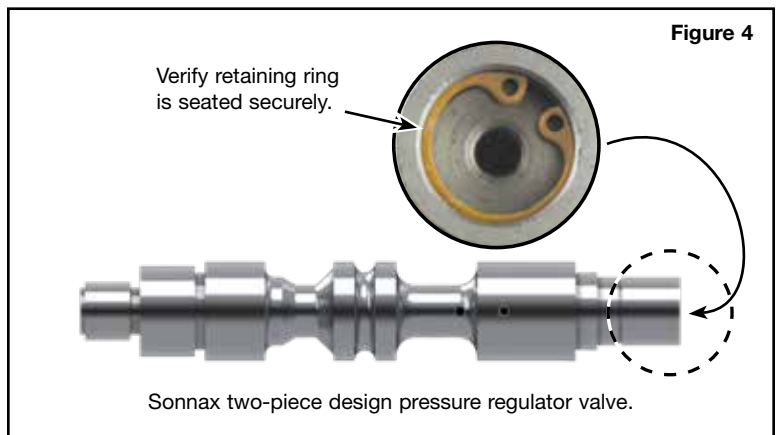

Figure 4
**NOTE:** The Sonnax pressure regulator valve is a two-piece design that is held together with a retaining ring. Before installation, verify retaining ring is seated securely (**Figure 4**).